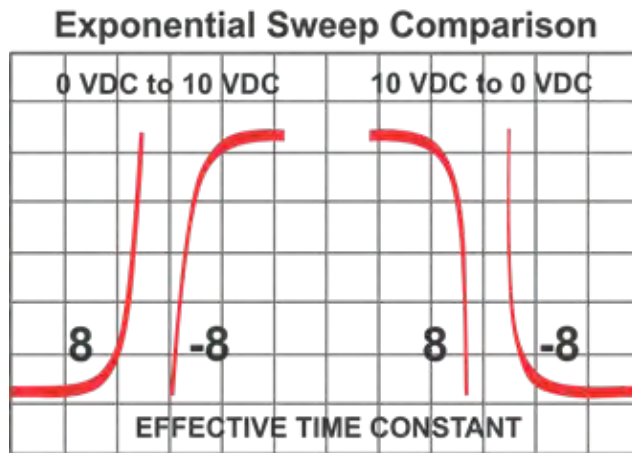

Figure 5.17 – Comparison of Effective Time Constant Sign Settings
7. Run the test sequence. The resulting output should be similar to that shown in **Figure 5.17**. Note that a rising exponential will be concave when a positive value is used for the effective time constant property, but convex when a negative value is used. Conversely, a falling exponential will be convex when a positive value is used for the effective time constant property, but concave when a negative value is used.